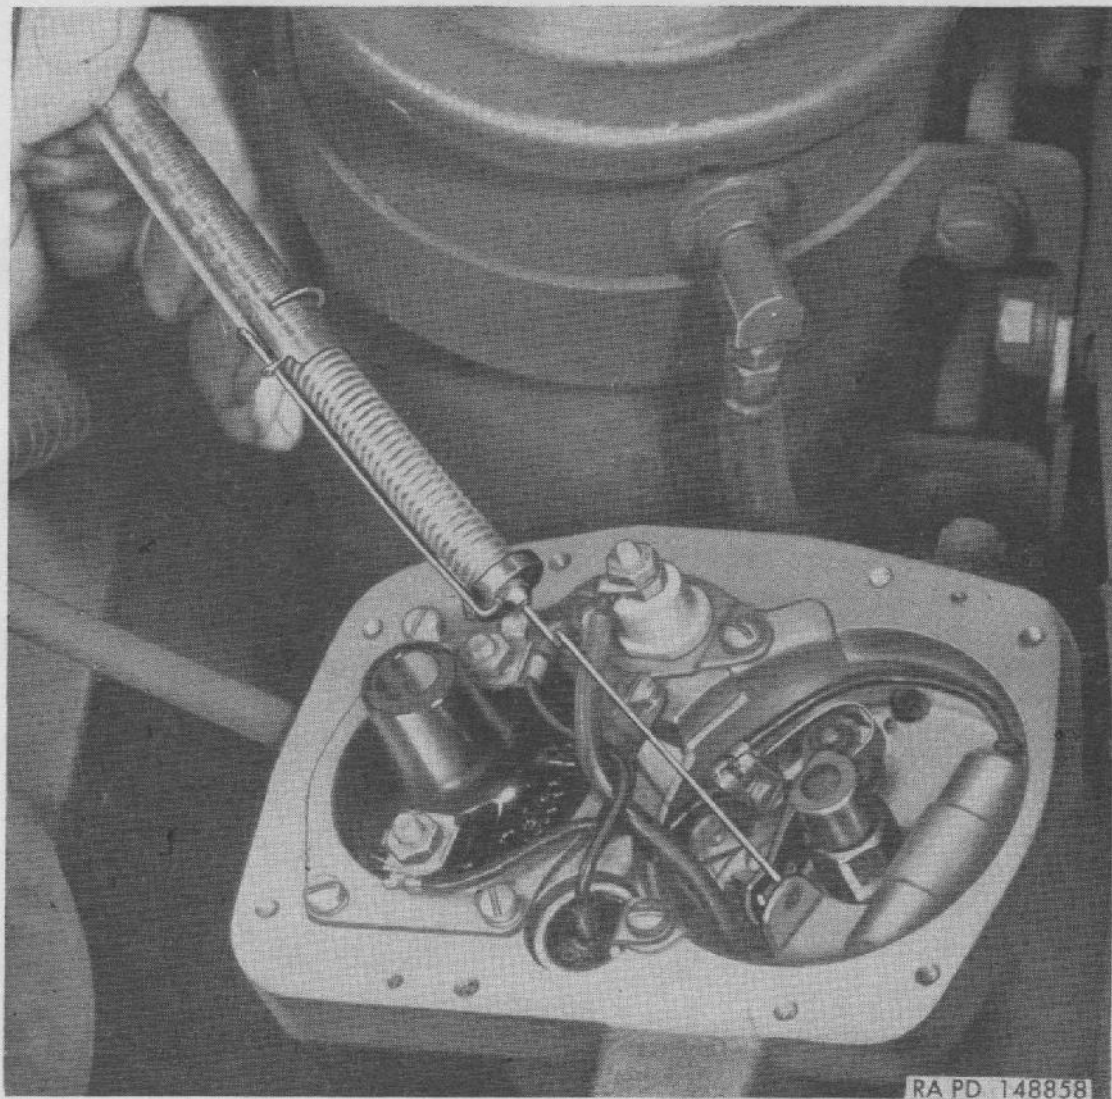

Figure 48. Checking breaker lever spring tension with gage.
- (1) Remove distributor cover. Pull rotor off distributor cam. Clean points, using a contact point dresser. If points are badly pitted or burned, replace points (*b* below).
- (2) Turn engine over in small stages by intermittently operating starter until distributor cam comes to rest with breaker lever pad on flat of cam (points closed). Using contact spring gage as shown in figure 48, check pull required to open points. If not within 17 to 21 ounces,